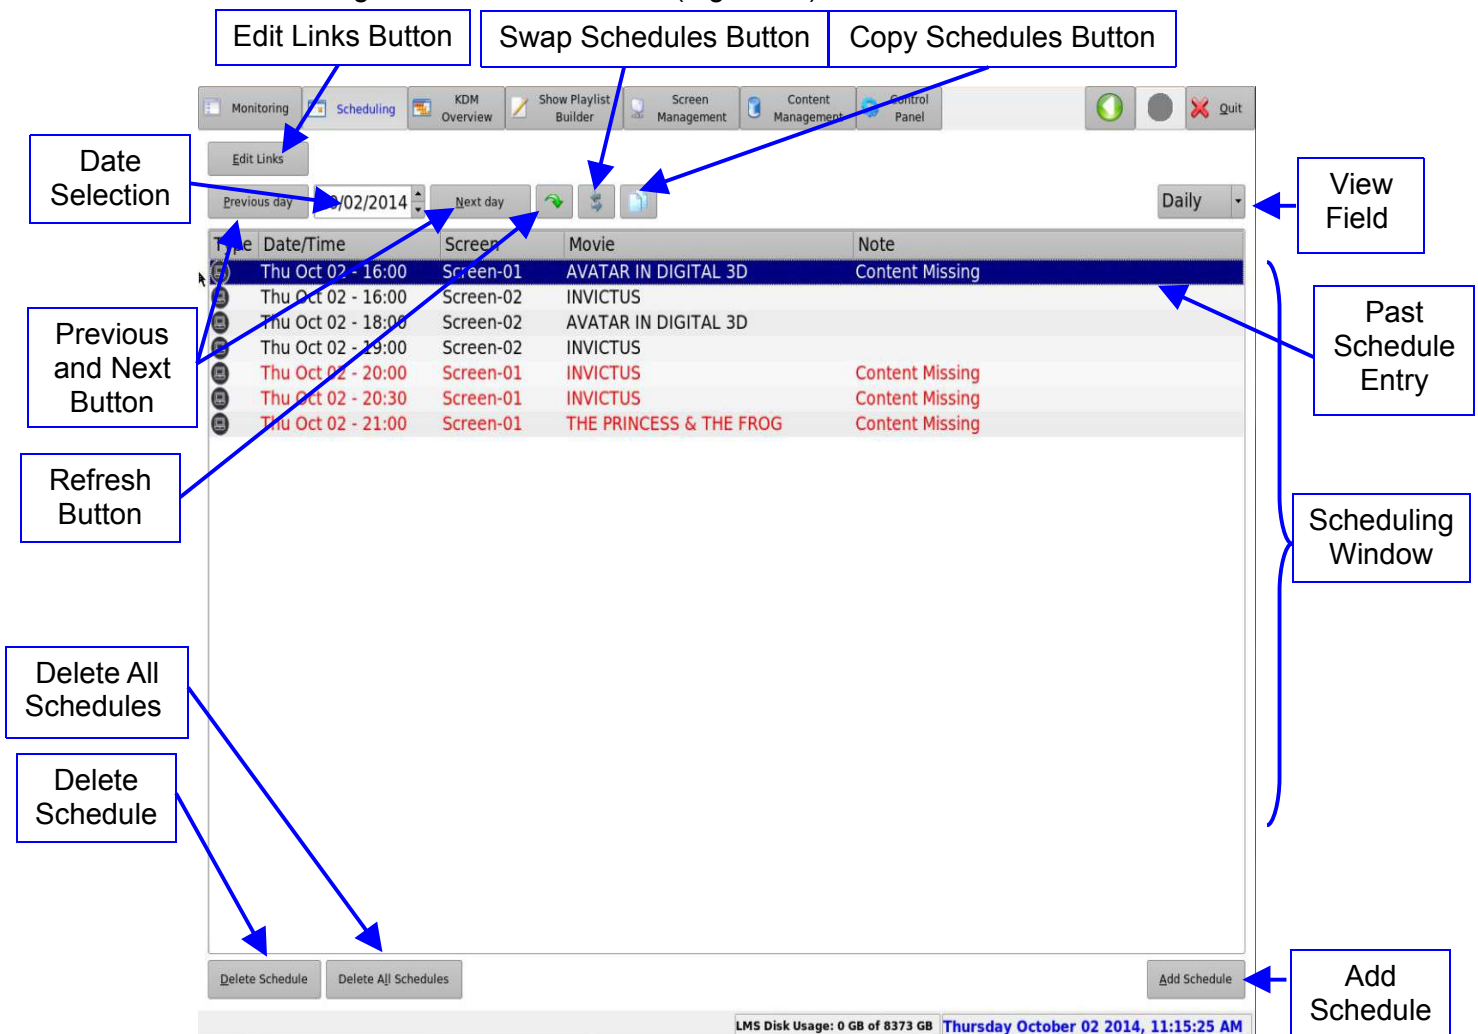

Figure 37: TMS GUI - Scheduling Tab
- The Scheduling tab is illustrated below (Figure 37):